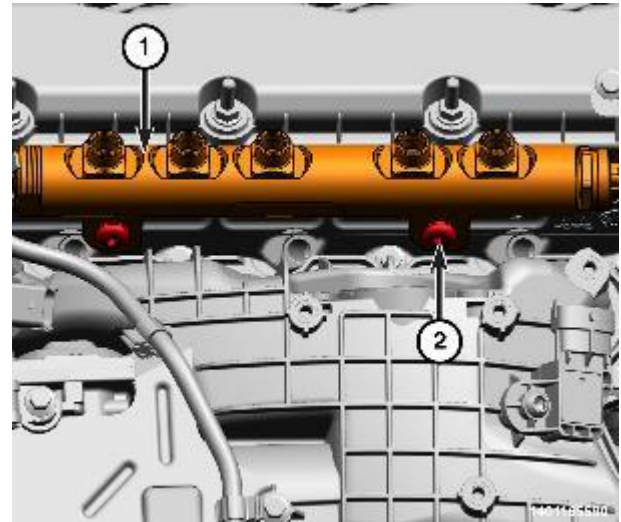

Figure 125 – Right Fuel Rail
- 62. Using the Remover-Installer, Fuel Rail Bolt 2025400090, remove the right fuel rail bolts (2) and the right fuel rail (1) (Figure 125).